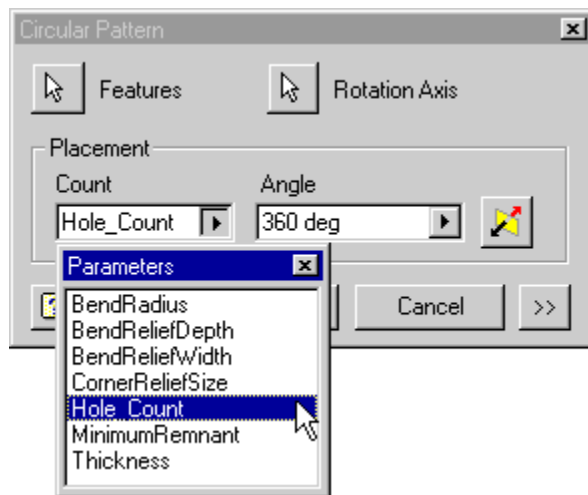

Figure 26: Selecting derived parameter for circular pattern count.
10. Click the arrow to the right of the Count edit box. Select List Parameters from the shortcut menu. Click Hole_Count in the Parameters list (see Figure 26). Click OK to complete.